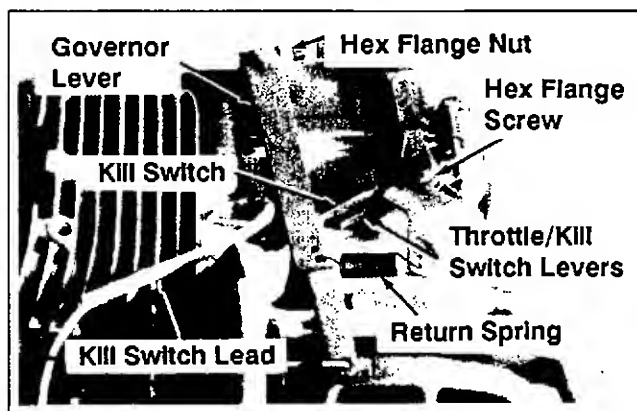

Figure 11-24. Installing Kill Switch, Throttle And Governor Linkage. (CH5 Shown)
1. Install kill switch lever, bushing, and throttle lever on the crankcase using hex. flange screw. See Figure 11-24.